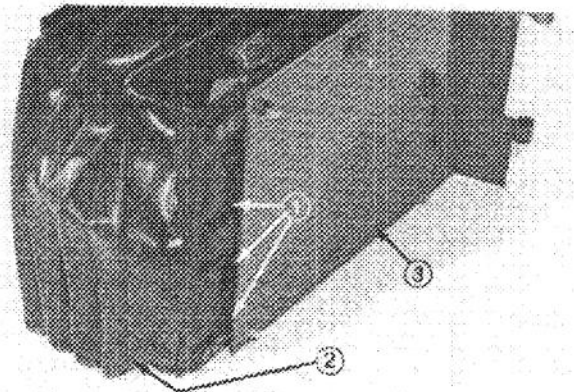

Figure 6
- Unsnap rubber bellows and mount seat suspension to seat mount with (4) capscrews, lockwashers and nuts (Fig. 6).